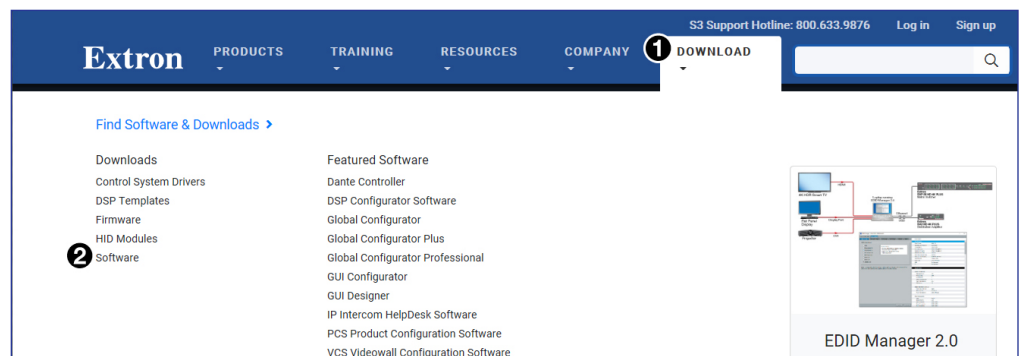

Figure 14. Locating Firmware Loader Software
1. On the **Extron website**, mouse over the **Download** tab (see figure 14, 1).